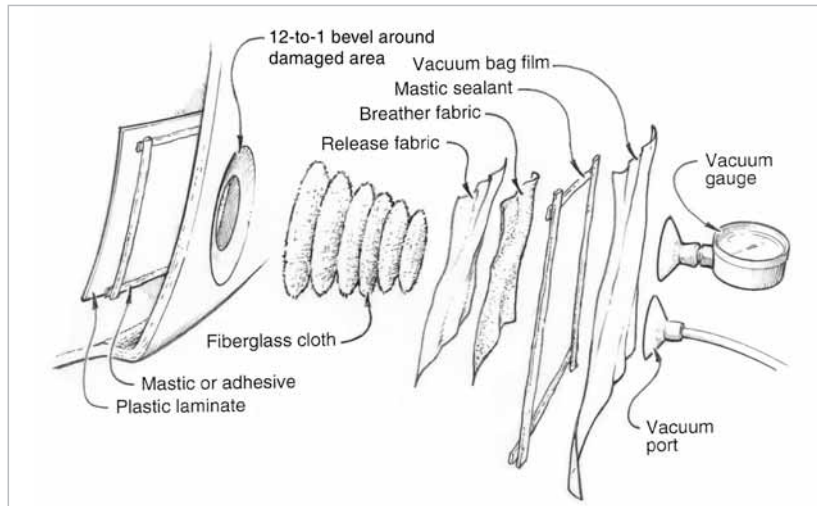

Figure 4-9 Smooth the patch and the release fabric in place. Lay the vacuum bag material over the patch, seal the bag and attach vacuum lines.
4. After smoothing the patch and release fabric in place, lay 882 Vacuum Bag Film or similar material over the patch (*Figure 4-9*). Remove the protective paper from the vacuum bag sealant and press the film into the sealant around the perimeter. The lay-up must be airtight. Vacuum leaks may create a resin-starved laminate or insufficient compaction.